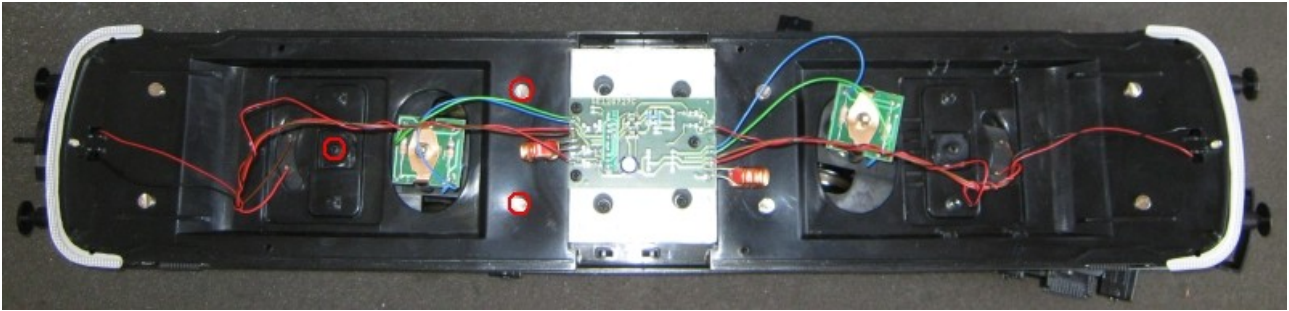

Fig. 5: Remove screws for weight + gearbox
- Remove the rear gear unit and the marked screws from the weight (Fig. 5).